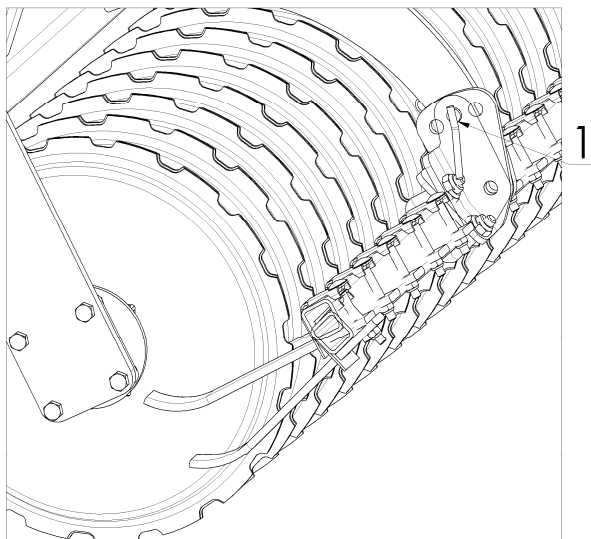

Figure 6. Adjusting the roller scraper
The cleaning scrapers for the roller discs can be adjusted to two positions by means of a pin-locked mechanism (Figure 6, item 1). Adjust the scrapers according to the conditions in such a way that blockages are not formed in the roller discs. The upper hole (outer scraper position) is the default adjustment. The lower hole (inner scraper position) should be used when cultivating soil that is prone to forming blockages.